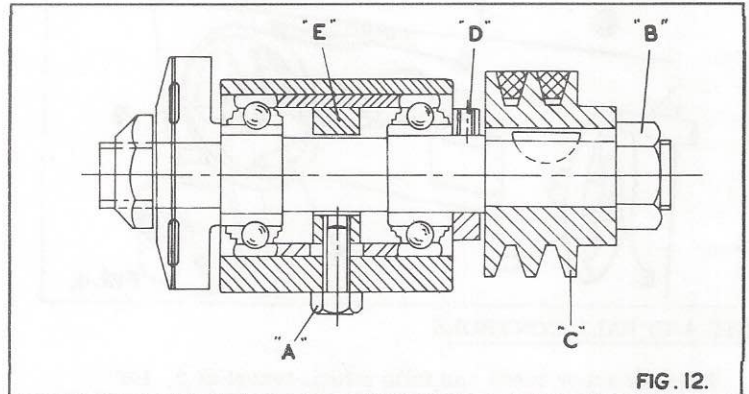

FIG. 12.
1. Loosen the hexagon head adjuster bolt "A" in fig. 12, and tap spindle where required, taking care not to damage the thread on spindle end. Place a steel rule along both sides of the riving knife to check whether the saw is central.
3. Remove the 5/8" whit nut (right hand thread) "B", in fig. 12, remove spindle pulley "C" which is keyed to the spindle.
The bearings should now be replaced as the arrangement in fig. 12. Care should be taken not to preload the bearings i. e. the spindle distance piece should be just free between the two bearings. When the locking collar has been replaced and the assembly is ready to be replaced in the spindle housing a hollow set screw should be inserted in the spindle trapping collar "E". This will assist in lining up the 3/8" whit x 1" long hexagon head bolt "A". on assembly.